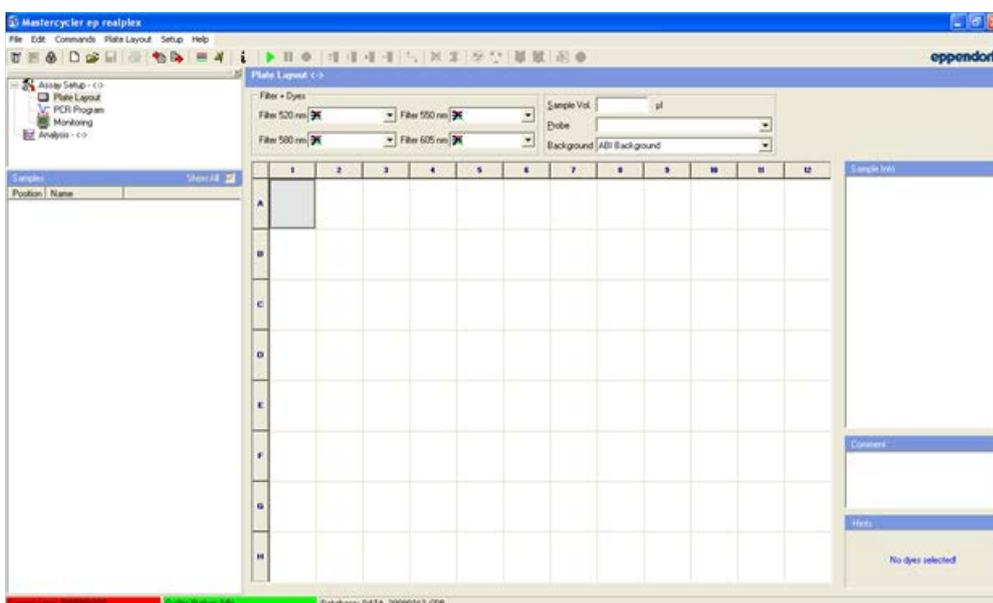

Figure 1. “Plate Layout” window.
2. Enter “Username” and “Password” when the “Login” dialog box appears and click “OK” to proceed with the login. The “Plate Layout” window (Figure 1) will appear.